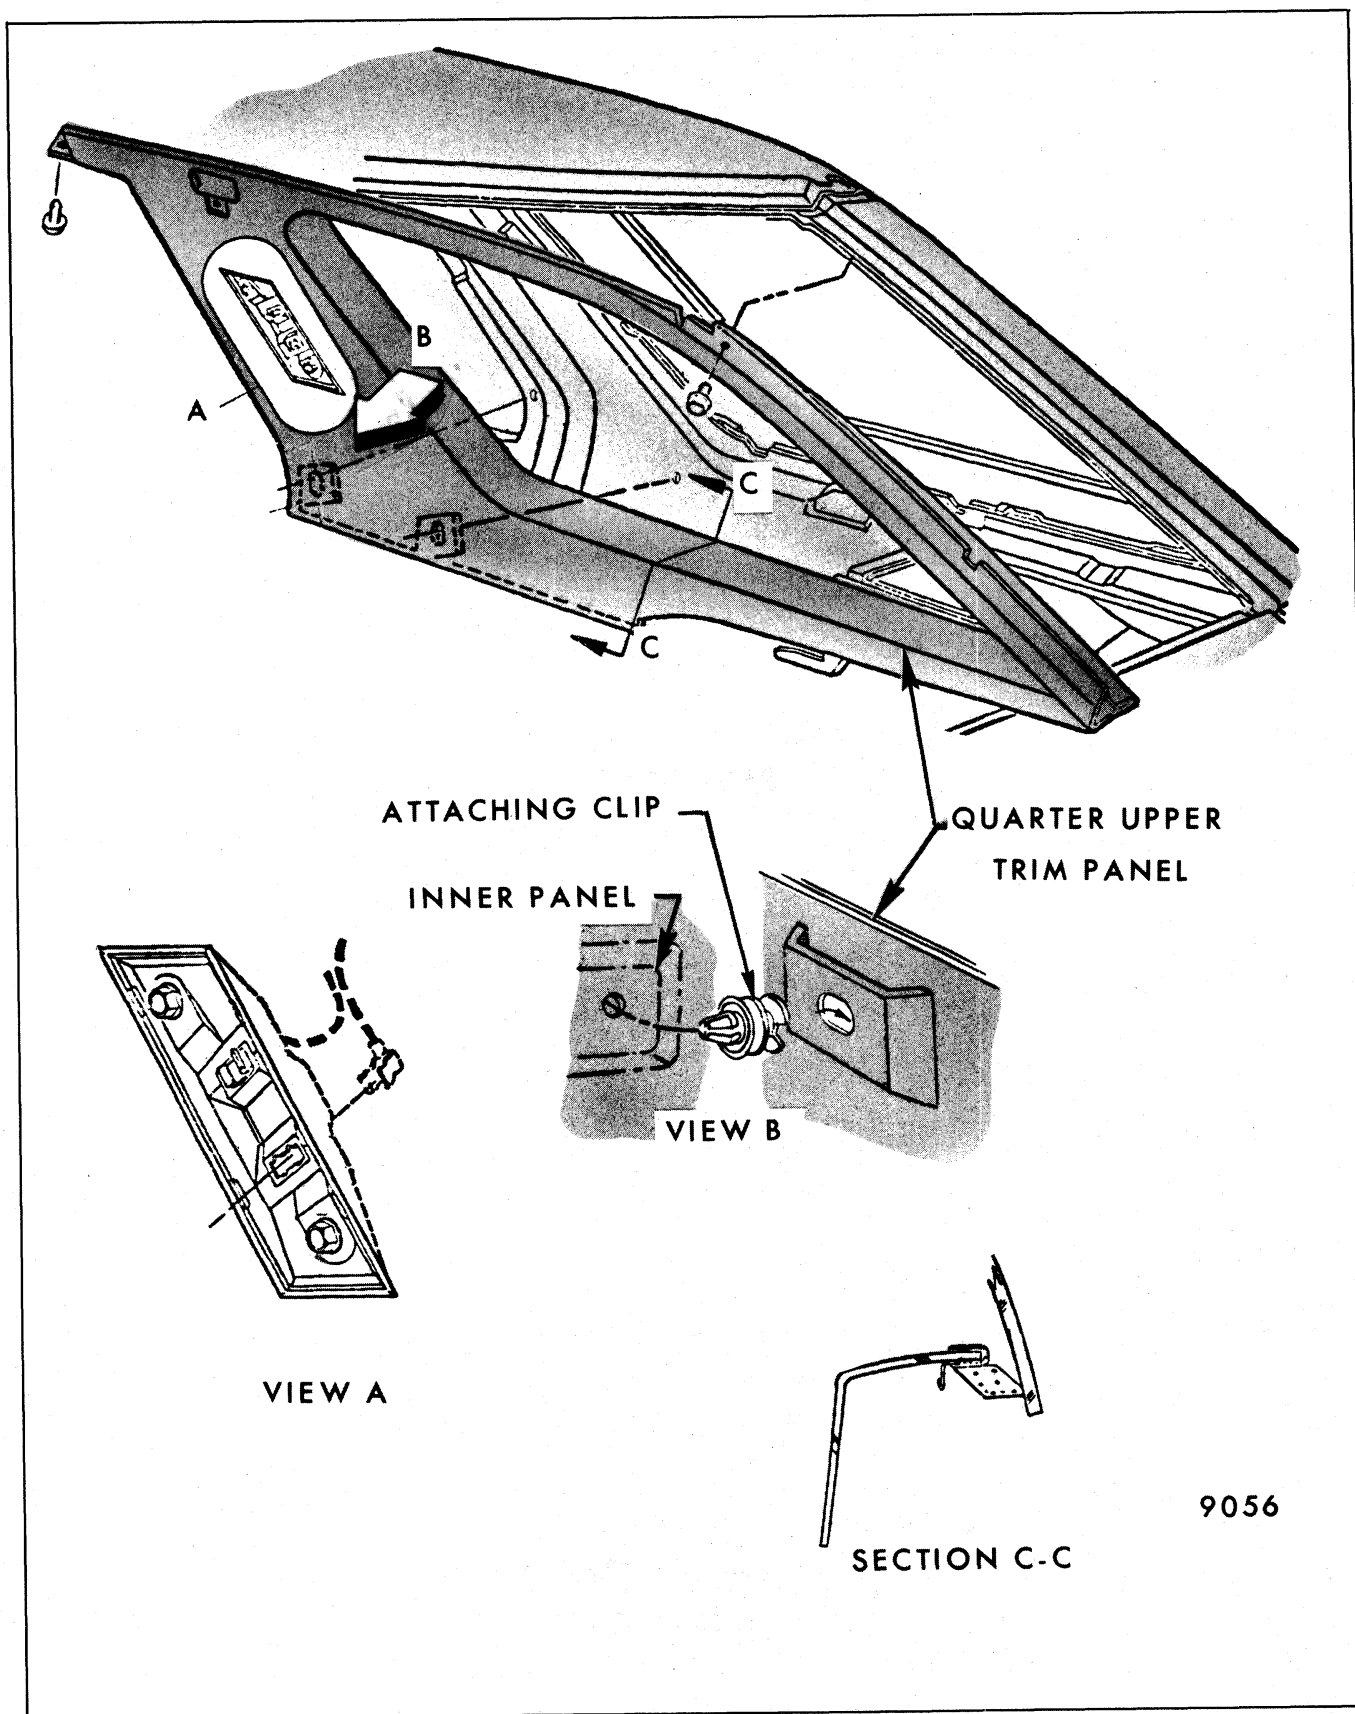

Fig. 6-14-Quarter Upper Trim Attachment - "B" Style Shown, "E- 87" Similar
5. On styles equipped with courtesy lamps in quarter upper trim (Figs. 6-14, 6-16 and 6-19), remove as follows: